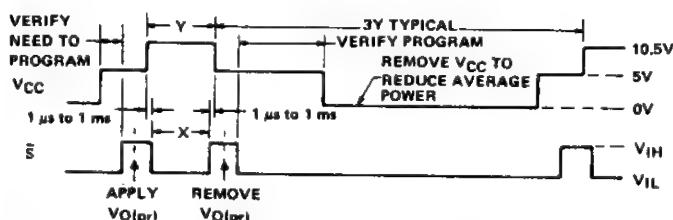

FIGURE 2 – VOLTAGE WAVEFORMS FOR PROGRAMMING
6. Apply a low-logic-level voltage to the chip-select input(s). This should occur between 1 μs and 1 ms after V_{CC} has reached its 10.5-V level. See programming sequence of Figure 2.
| Duration of V _{CC} programming pulse Y (see Figure 2 and Note 3) | | 98 | 100 | 10 ³ μ s |